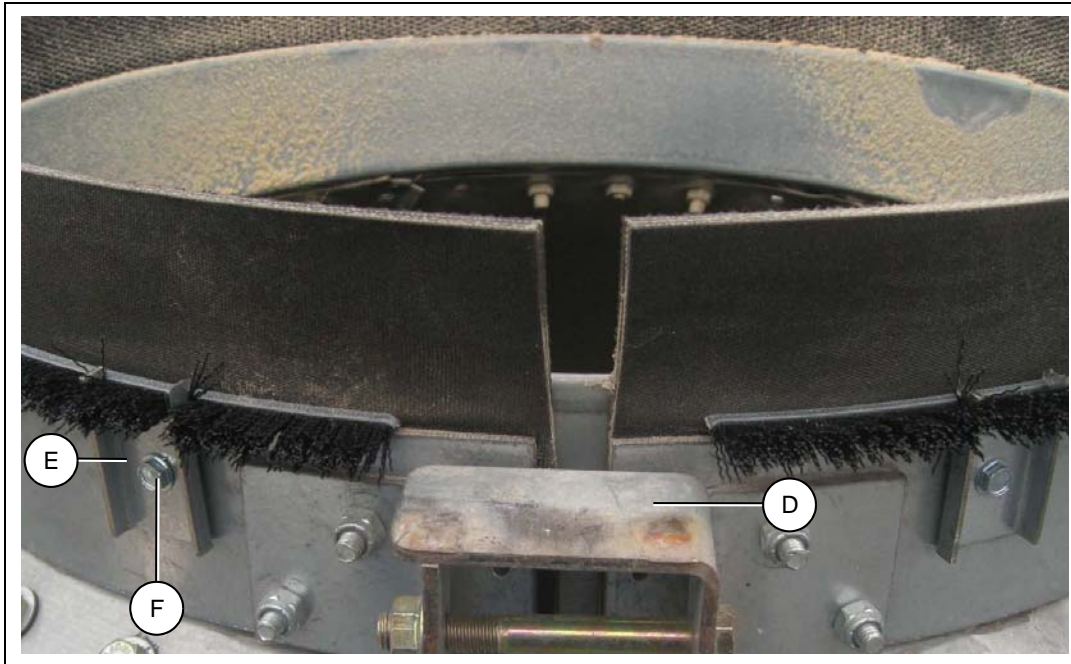

Figure 2
4. Place a clamp (E) on each side of the striker plate (D) with the hook of the clamp positioned on the brush as shown in Figure 2.
5. Install a self-drilling screw (F) through each clamp. (See Figure 2.)